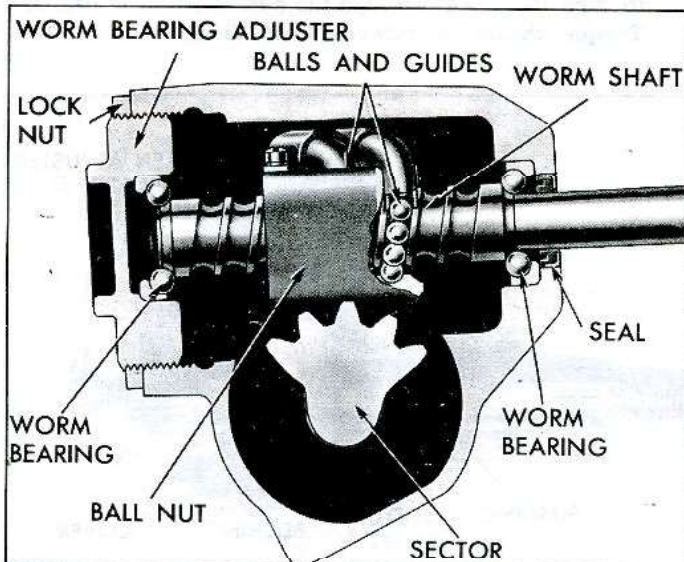

Fig. 1—Steering Gear Worm and Ball Nut Circuits
The regular production steering gear (fig. 1) is the recirculating ball type.
4. To adjust the worm bearings (See Figure 1): loosen the worm bearing adjuster locknut and turn worm bearing adjuster down until there is no perceptible end play in worm. Check the pull at the torque wrench, readjusting the adjuster nut as necessary to obtain proper pull. Tighten the locknut and recheck pull. If the gear feels "lumpy" after worm bearing adjustment, the bearings are probably damaged and the gear should be removed and disassembled for replacement of the damaged parts. See "Service Operations".